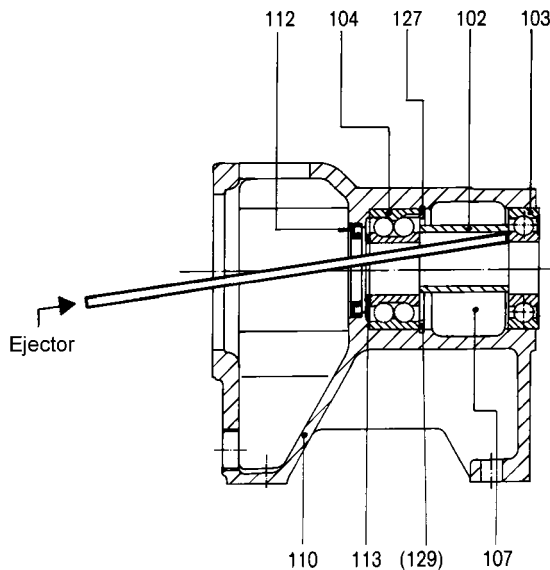

Figure 6: Dismounting the bearings
- Move the spacer sleeve (102) radial and drive off the groove ball bearing (103) with a suitable tool (driver) out of the bearing bracket (110) (see figure 6).